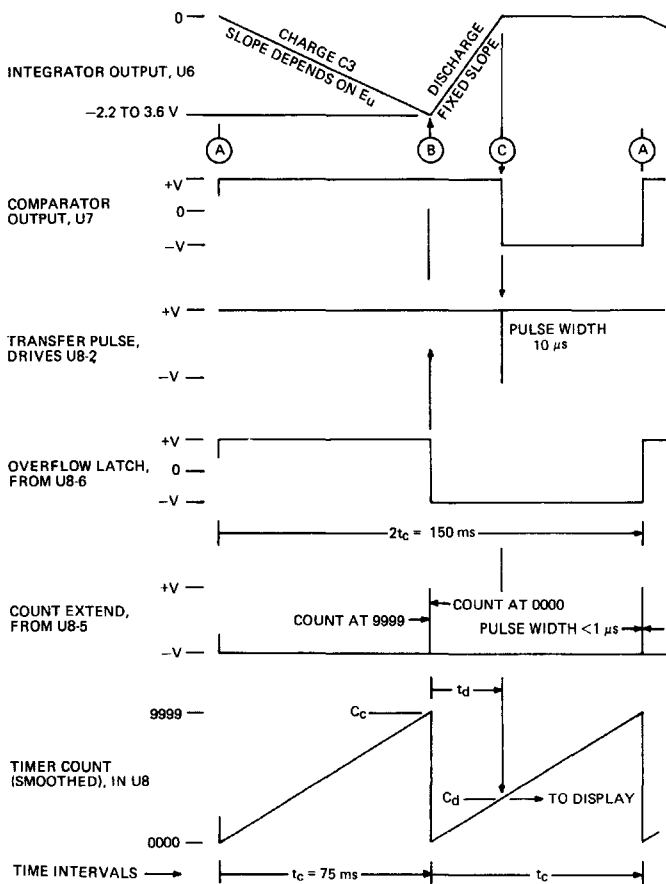

Figure 3-6. Waveform and timing diagram for the A/D converter in the 1981. For the readout range 70 to 120 dB(A), t_d range is approx 5 to 9 ms.
3.6 DESCRIPTION OF A/D CONVERTER Figures 3-6, 3-7.